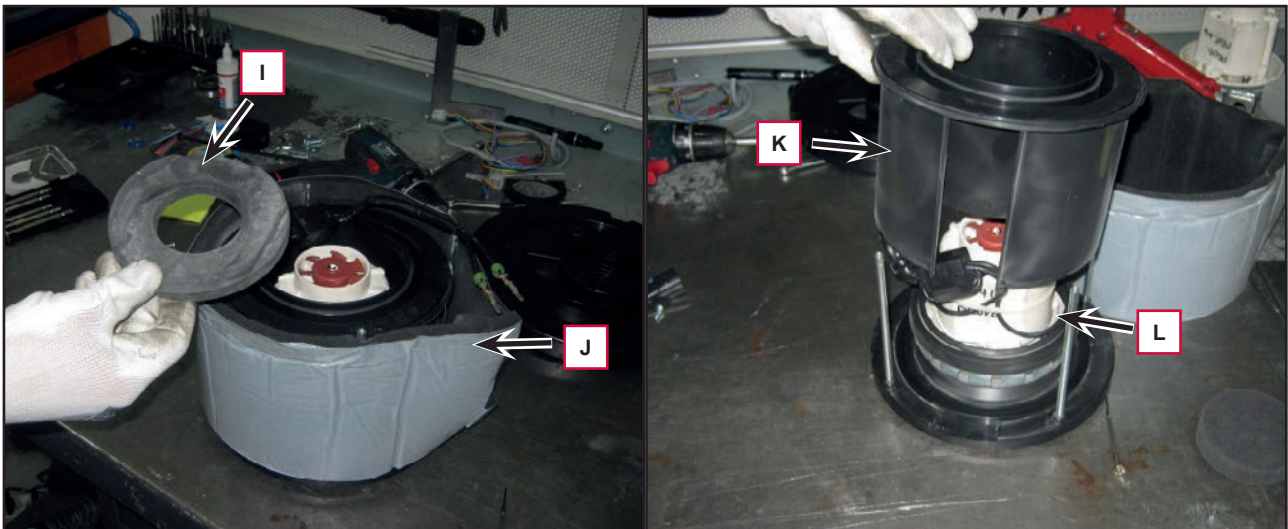

Figure 9
8. Remove the soundproofing (I) (Figure 9) and (J).
9. Remove the protection (K) to reach the vacuum system motor (L).